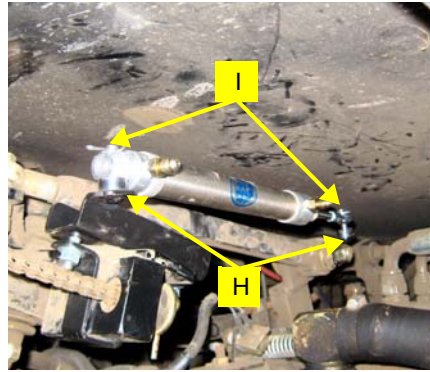

Figure 6b: Attached steering cylinder
- c. Slide spacer (**H**) over the head and rod mounting pin of brackets (**L**) and (**M**) or (**N**). (Figure 6b)
- d. Attach the prepared steering cylinder from step 6a to the head and rod brackets as shown in Figure 6b. Using the provided hardware (**I**) to secure the cylinder. (Figure 6b)